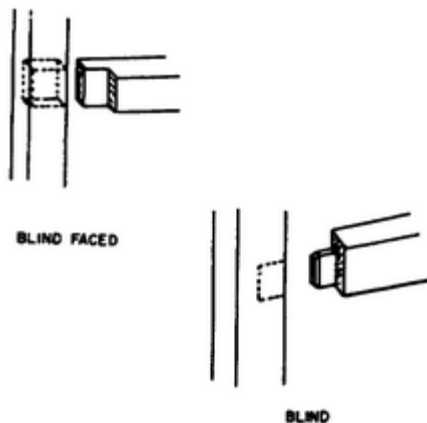

Figure 11. Blind mortise and tenon joints.
c. *Blind mortise and tenon joints.* These joints are those in which the mortise and tenon do not go completely through the mortise member, as shown in figure 11. They are used for doors, table legs, rails, and panels when it is desired that no part of the mortise or tenon be seen after the work is assembled.